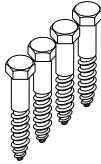

Figure 4 Screws to attach mounting bracket to building
- After the holes are drilled into the building, drive the screws (illustrated in Figure 4) through the holes on the mounting bracket and into the building.
Figure 4 illustrates the screws to use to attach the mounting bracket to the building.